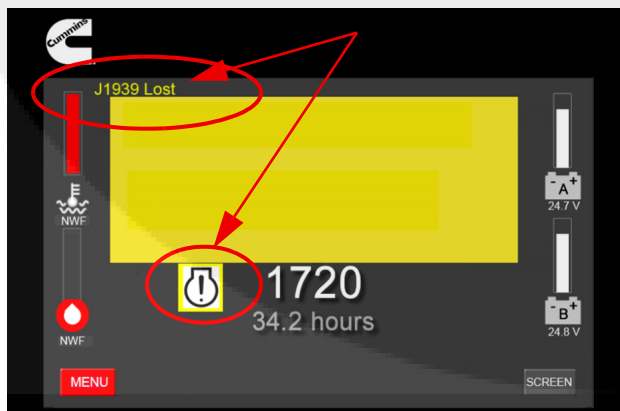

Figure 2-7 Loss of J1939 Communications
- **Communications have been lost with the ECM**. The FPDP communicates with electronically-controlled engines via J1939. As shown in Figure 2-7, if communications are lost, "J1939 Lost" will appear on the top left of the screen. The warning lamp will also illuminate and the text "NWF" (which stands for "Network Failure") will replace all digital J1939 values, except the tachometer, which will revert to using a mechanical speed sensor for engine speed detection.